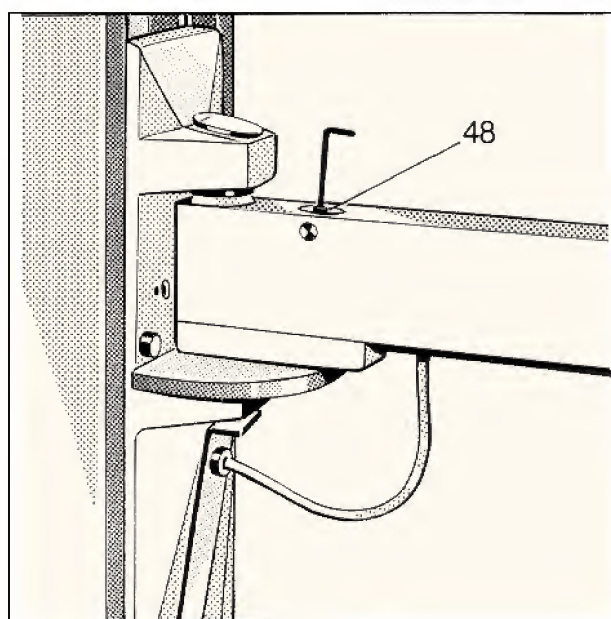

Fig. 33
- \* Check detent function of tube support arm at the control handle by tilting X-ray tube. The force required to overcome the detent should not exceed 12 N. If necessary adjust spring pressure by turning locked screw (Fig. 33/ item 48). Slightly lubricate running surface of detent ball.